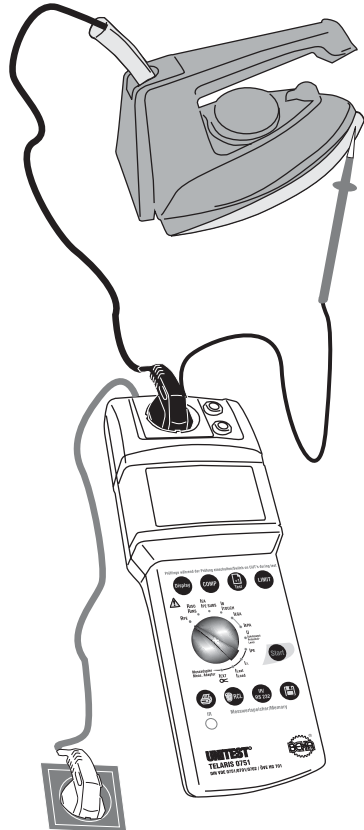

Figure 6.1: Measurement of the PE resistance
- ▶ Connect the UNITEST TELARIS 0751 via the mains plug (1) to a functional and correct wired and grounded mains socket.
- ▶ Turn the 'Measurement function' selection switch (15) to position 'RPE'.
- ▶ Set the limit for the PE resistance using the key "LIMIT" (7).
- ▶ Plug the UUT mains plug into the test socket (3).
- ▶ Connect the PE test connector 'Probe' (2) to touchable, conductive appliance parts of the UUT, in compliance with Figure 6.1. Ensure a good contact with the surface of the casing parts.
- ▶ Press the key "Start" (9). The unit symbol which is blinking on the display is an indication for the active measurement procedure.
- ▶ Read the measurement value from the LC display (6). If the limit value display is active, the symbol 'LIMIT' (21) indicates that the limit value has been exceeded.
- ☞ The appliances displays the AC resistance of the PE resistance. The key "Display" (17) is used to subsequently display the measurement values for the positive and negative test current during the measurement (display symbol $\Omega+$ and $\Omega-$).
- ☞ The measurement results can be saved by pressing the key "Store" (10). For any references regarding saving of measurement values, please refer to sections 7.1 and 7.2.